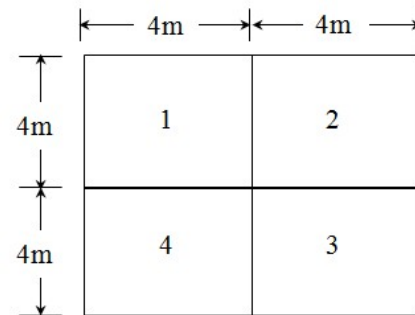

Fig.7
- (b) A reinforced concrete water tank shown in the Fig.7 of size 8 m $\times$ 8 m and resting on ground surface carries a uniformly distributed load of 250 kN/m². Calculate the maximum vertical pressures at depths of 12 m and 24 m by (i) Point load approximation and (ii) Exact method (Boussinesq).